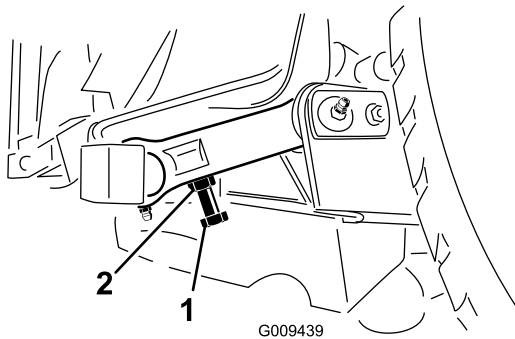

Figure 25
3. To adjust distance, locate adjuster bolt on rear pivot link of the mower deck (Figure 25).